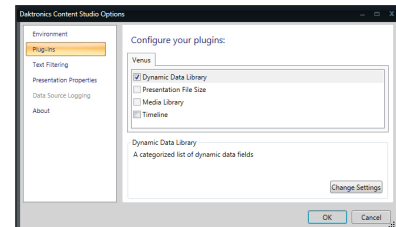

Figure 8: Content Studio Plug-In Options
8. Click **Plug-ins**, as shown in **Figure 8**.